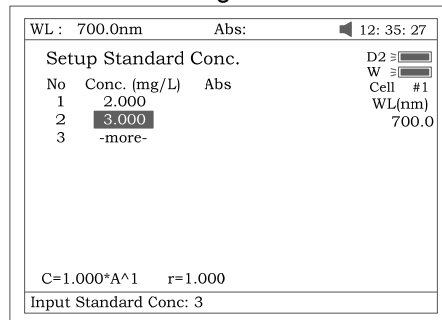

Fig 31
3.3.1 Enter standard concentrations of samples by pressing the Numeric keypad followed by [ENTER]. Press [^] or [v] to modify the inputted data Fig 31.